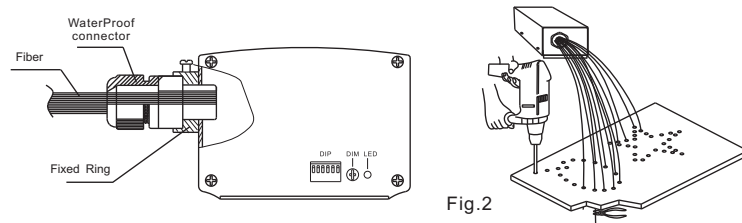

Fig.2
D. Installation of the fiber optic (Fig.2)